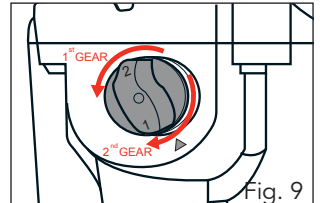

Fig. 9
2. To change to 1st gear for slower speeds and higher torque, push the gear selecting switch up (Fig. 9).